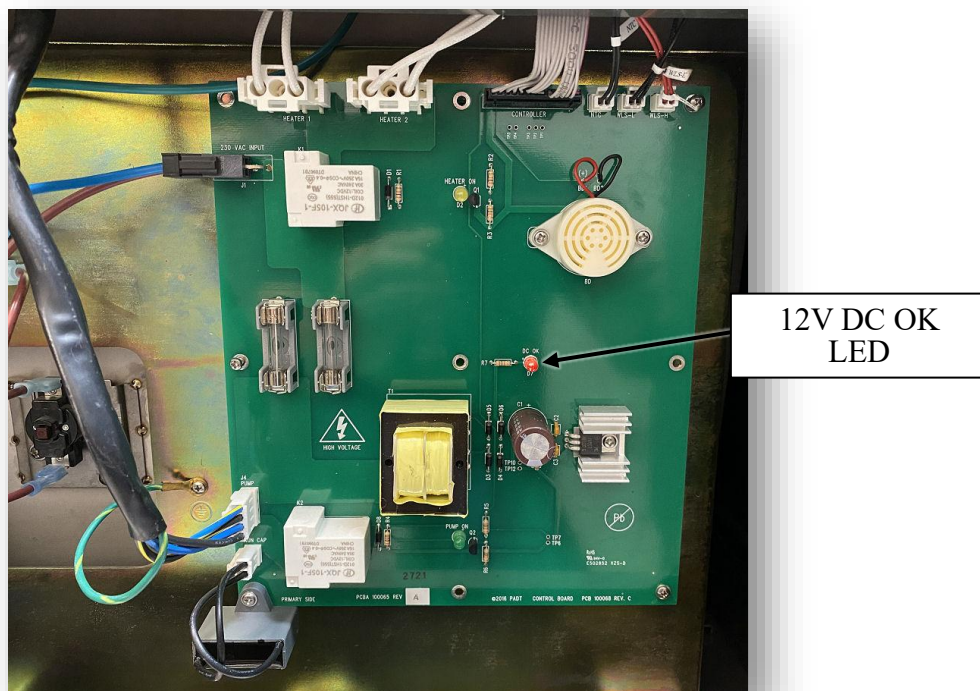

Figure 45 – 12V DC OK LED
- c. Plug the SCA into power and toggle the Power Switch to the left. Check if the 12V DC OK LED is lit on the PCB (**See Figure 45**). This LED will illuminate once the Power Switch is toggled on.